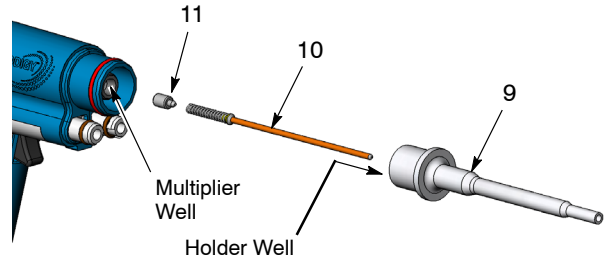

Figure 5 Installing New Resistor and Resistor Holder
5. See Figure 5. Inject about 0.6 cc of dielectric grease into the new resistor holder (9). Insert the new resistor (10) into the holder until it bottoms out, then inject about 0.8 cc of dielectric grease into the holder well.
6. Remove the contact spacer (11) from the multiplier well. Clean the contact spacer and multiplier well. Install the contact spacer into the multiplier well, then fill the well with dielectric grease.